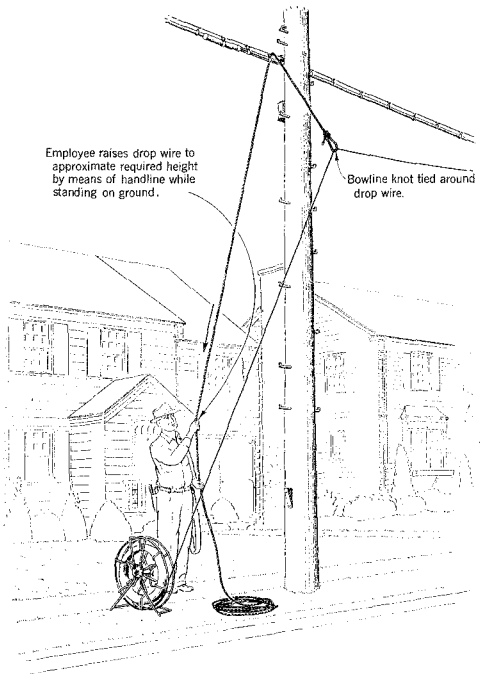

Fig. 3 — Raising Drop Wire
(6) Set the brake of the drop wire reel so that when the wire is raised by the handline there will be sufficient tension in the wire to enable it to be pulled up to the approximate required height in the span over the street or highway.
(7) After checking to make sure that the drop wire reel is in a stable position and that its brake is properly set, grasp the free end of the handline and, when no vehicles or pedestrians are approaching, raise the drop wire as shown in Fig. 3. If it is necessary to remove excess slack from the wire span as it is being raised, pull the wire feeding from the reel and wind the excess length of wire on the reel.